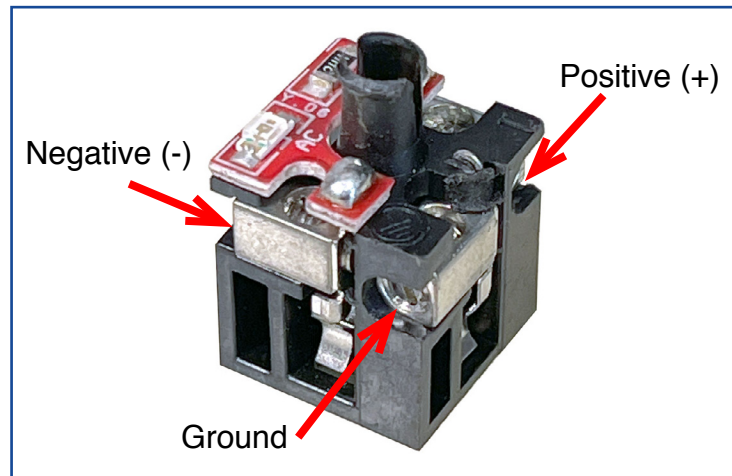

Figure 10 - Connector terminals
4. The connector has three terminals: Positive, negative, and ground (Figure 10). Back out the (+) and (-) terminal screws with the #1 Phillips screwdriver.